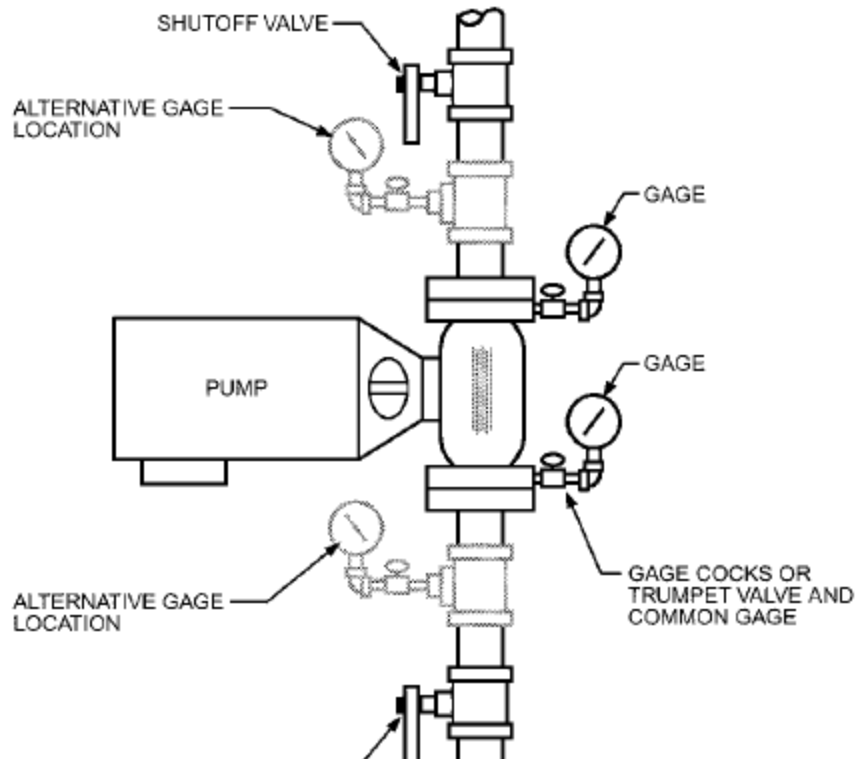

Figure 39 In-Line Pump Installation
- 1- Pumps may be base-plate-mounted (Figure 38), either singly or in packaged sets, or installed in-line directly in the piping system (Figure 39). **Pumping equipment, accessories, electrical controls, and/or packaged systems, must comply with applicable seismic requirements for anchorage and equipment seismic certifications, as described in local building codes.**
- 11- Where seismic considerations allow, install vibration isolators in the pump suction and discharge lines to reduce transmission of vibration noise to building spaces (Figure 39). Properly located pipe hangers and supports can reduce transmission of piping strains to the pump.